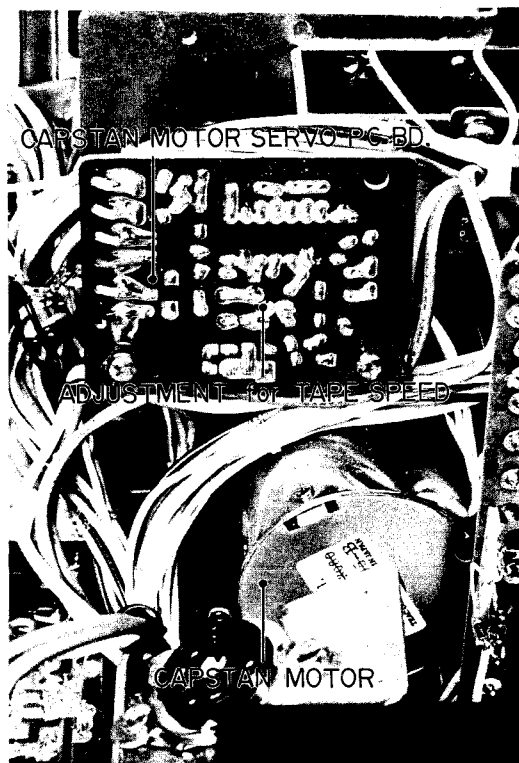

Fig. 5-8 Tape Speed Adjustment Location
4. Adjust the semi-fixed resistor as shown in Fig. 5-8 for reading of 3,000 Hz  $\pm$  5 Hz on the frequency counter. (NOTE: This tape speed setting should be done after approx. 30 seconds of operating time of the deck.)